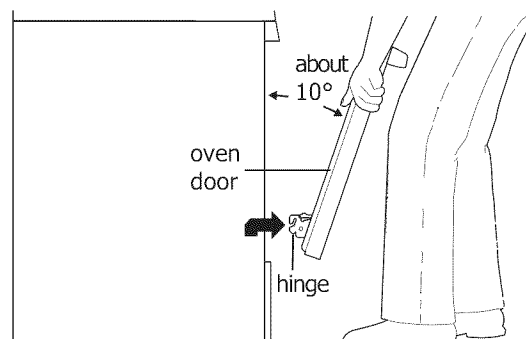

Figure 35: Holding door for removal
3. Firmly grasp both sides of oven door along the door sides. Do not use the oven door handle (See Figure 35).
5. Lift the oven door hinge arms over the roller pins located on each side of the oven frame (See Figure 35).
1. Firmly grasp both sides of oven door along the door sides. Do not use the oven door handle (See Figure 35).
2. Holding the oven door at the same angle as the removal position (See Figure 35), seat the hook of the hinge arm over the roller pins located on each side of the oven door frame (See Figure 36). The hook of the hinge arms must be fully seated onto the roller pins.